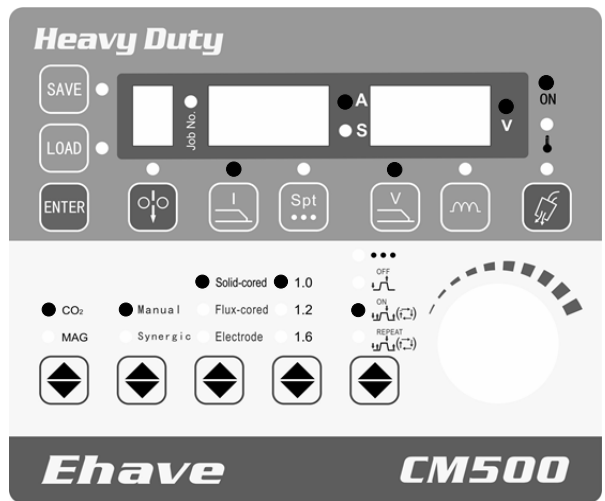

Figure 3-10 Selecting the mode of welding with ending arc
4. Figure 3-10 shows the control panel where the parameters have been set.